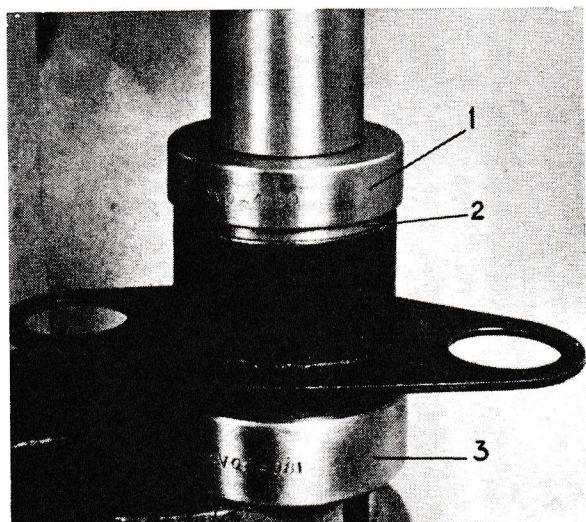

Fig. 7. Fitting ball bearing.
When pressing in the ball bearing, which is also done in an arbor press, make sure that it is not pressed askew into the bearing case. Use driver SVO 4080, fig. 7. Install bearing case in spacer SVO 4081 exactly under tool (1). Place ball bearing (2) on the tool guide pin, true up and press it in as far as the tool permits. The ball bearing is similar on both sides and can consequently not be wrongly installed.